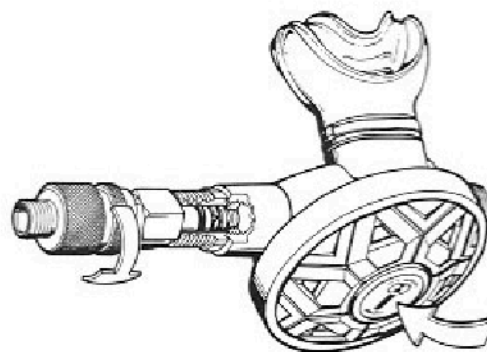

Figure 13
CAUTION: Always depress the purge button when adjusting the crown (item 19) with the In-line Adjustment Tool. Failure to do so can cause damage to the disc (item 15), requiring its replacement. The In-line Adjustment Tool handwheel must be compressed to engage the split screw drive head to the crown (item 19). See figure 13.